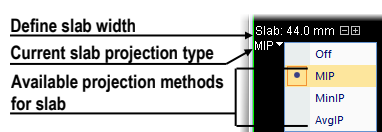

Figure 277 – Controls for defining slab in the current view
3. Select the method for the slab pixel values calculation (see Figure 277).